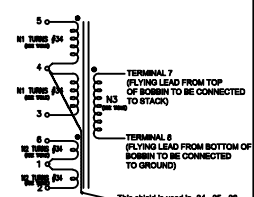

FIGURE 1
- USED FOR -04, -05, -06: MEASURE AROUND THE FINISHED COIL. CUT A PIECE OF ITEM 24 ( FT.IL) APPROXIMATELY 2MM WIDE AND LONG ENOUGH TO ENVELOPE THE COIL. IN A FEW HUNDRETHS OF AN INCH. PLACE A PARTIAL WRAP OF ITEM 23 AROUND THE EDGES TO PREVENT THEM FROM CUTTING THROUGH THE MAGNET WIRE INSULATION. TAPE THE WRAPPED PIECE OF FOIL AND ATTACH A SHORT PIECE OF ITEM 23 TO ONE END. AFFIX A SMALL MYLAR PIECE TO THE FOIL, STICKY SIDE TO STICKY SIDE, THEN ATTACH THE FOIL, STICKY SIDE UP, TO THE COIL USING THE MYLAR. CONTINUE TO WRAP THE FOIL AROUND THE COIL UNTIL IT OVERLAPS ITSELF. SEAL THE INSULATION FROM TOUCHING ITSELF BY THE MYLAR PIECE HOLDING THE FAR END TO THE COIL. TAKE ANOTHER SMALL PIECE OF MYLAR TAPE AND TAPE THE LOOSE END OF THE FOIL TO ITSELF, MAINTAINING ELECTRICAL ISOLATION. WRAP THE TURNS OF ITEM 4 BIFILAR ( TWO WIRES HELD TOGETHER) AROUND THE COIL ON TOP OF THE STICKY FOIL, AND CONNECT AS IN FIGURE 1. TAKE A MARSHN PIECE OF FOIL AND APPLY IT ON TOP OF THE TWO WIRES ALL THE WAY AROUND EXCEPT FOR A SMALL GAP. SOLDER THIS TOP PIECE OF FOIL TO THE BOTTOM FLANGE IN ONE PLACE. MAKE A CONNECTION FROM THE FOIL SHIELD TO PIN 4 OF THE BOBBIN.